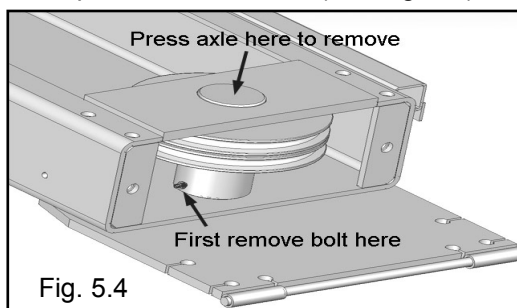

Fig. 5.4
3. Remove any pre-installed CABLE SHEAVES from the POWERSIDE RUNWAY making sure to pay attention to the order in which they are removed. (This will help at the time of re-installation.) First remove the retaining bolt then press the Sheave Axle through the runway completely until the Sheaves and Spacers are removed. (See Fig. 5.4)